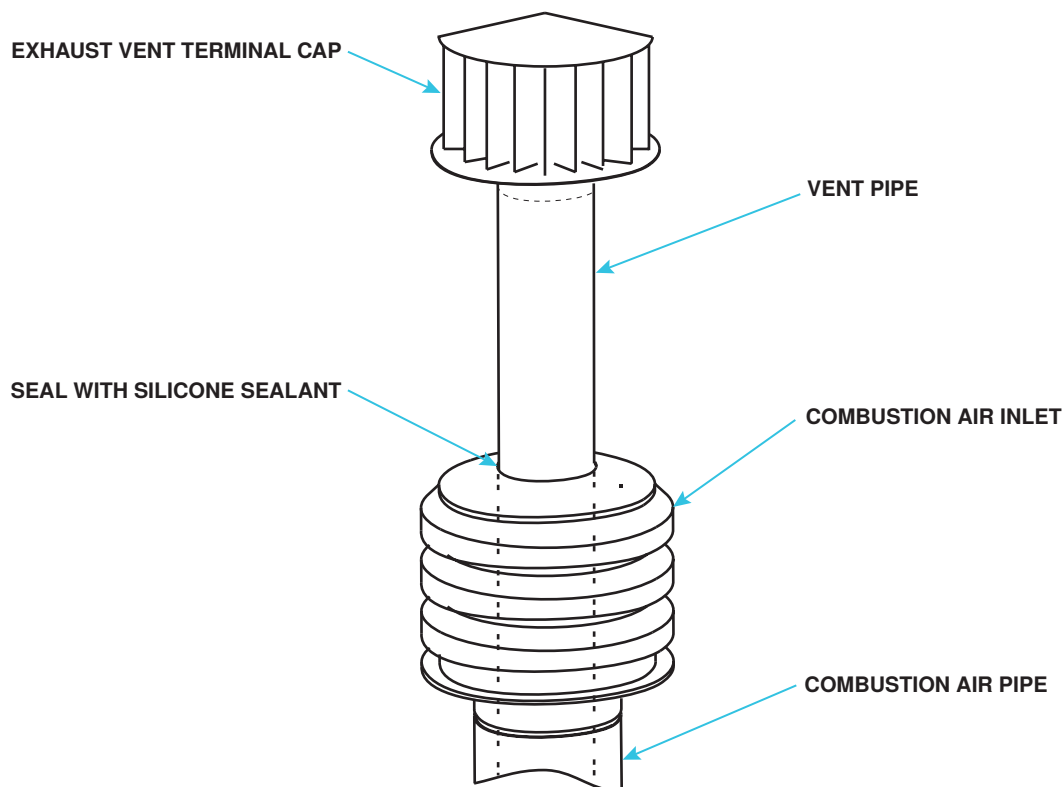

Figure 22. Combustion Air Inlet and Vent Terminal Installation
8. Install combustion air inlet (see Figure 22):
9. Install exhaust vent terminal (see Figure 22) in accordance with Figure 11.